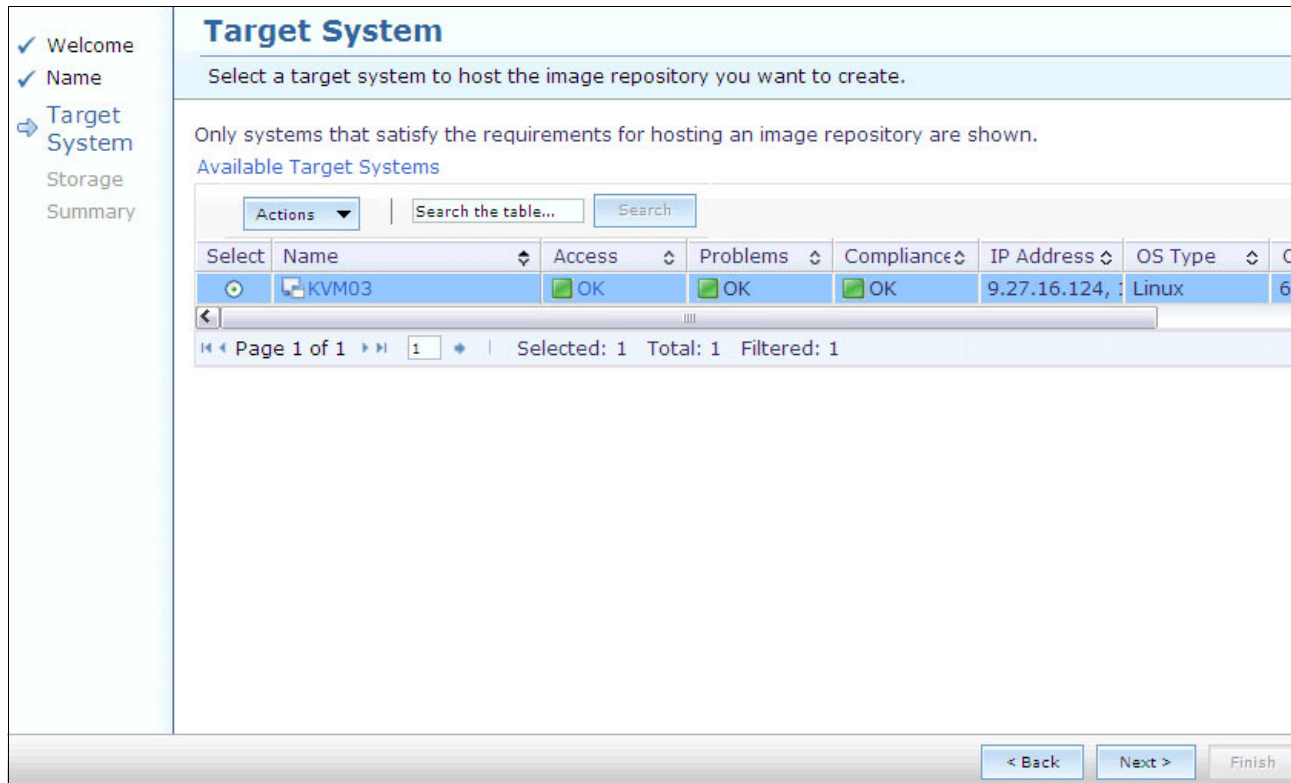

Figure 9-52 Selecting the image repository system
5. Select the **Target System** that was prepared before with the Common Agent and image repository subagent to create an image repository system (Figure 9-52). Click **Next**.